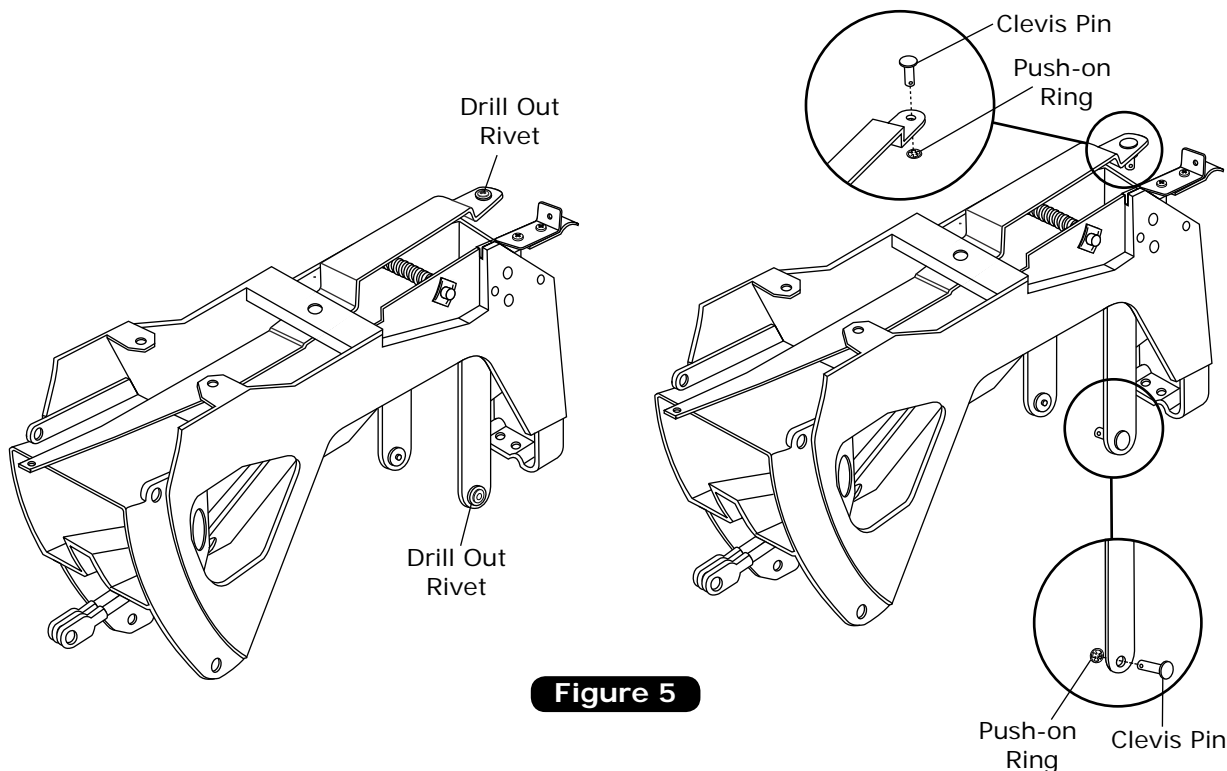

Figure 5
1. Drill out (2) OEM cable lever rivets as shown in Figure 5, below.
2. Install (2) clevis pins, and secure with (2) push-on rings as shown in Figure 5, below